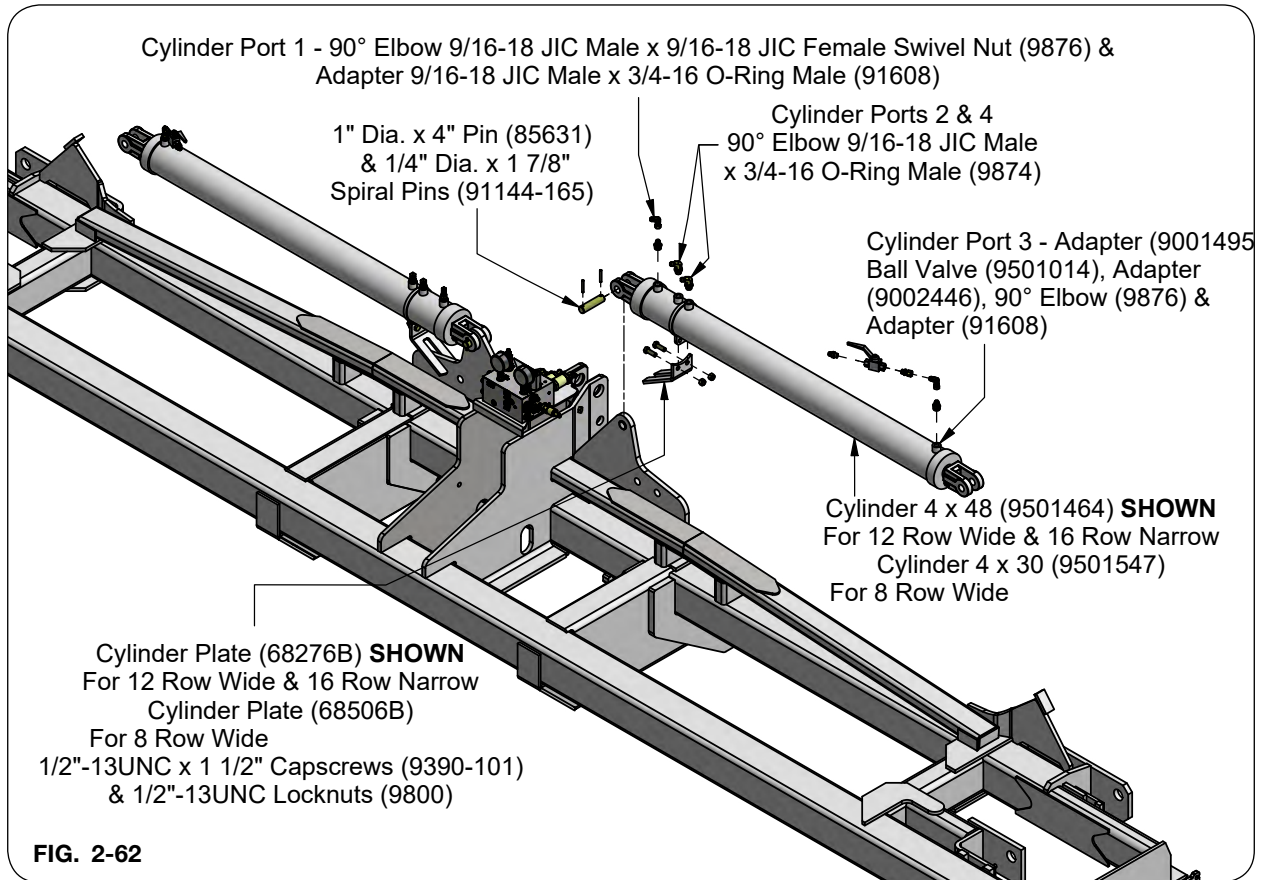

FIG. 2-62
4. Attach the cylinder plates to the cylinders with 1/2"-13UNC x 1 1/2" capscrews (9390-101) and 1/2"-13UNC locknuts (9800). (FIG. 2-62)
5. Assemble 90° elbows (9876) and adapters (91608) to cylinder ports 1 and 3. (FIG. 2-62)
6. Assemble 90° elbows (9874) to cylinder ports 2 and 4. (FIG. 2-62)
7. Attach the cylinder to the main frame with 1" Dia. x 4" pins (85631) and 1/4" Dia. x 1 7/8" spiral pins (91144-165) as shown in FIG. 2-62.